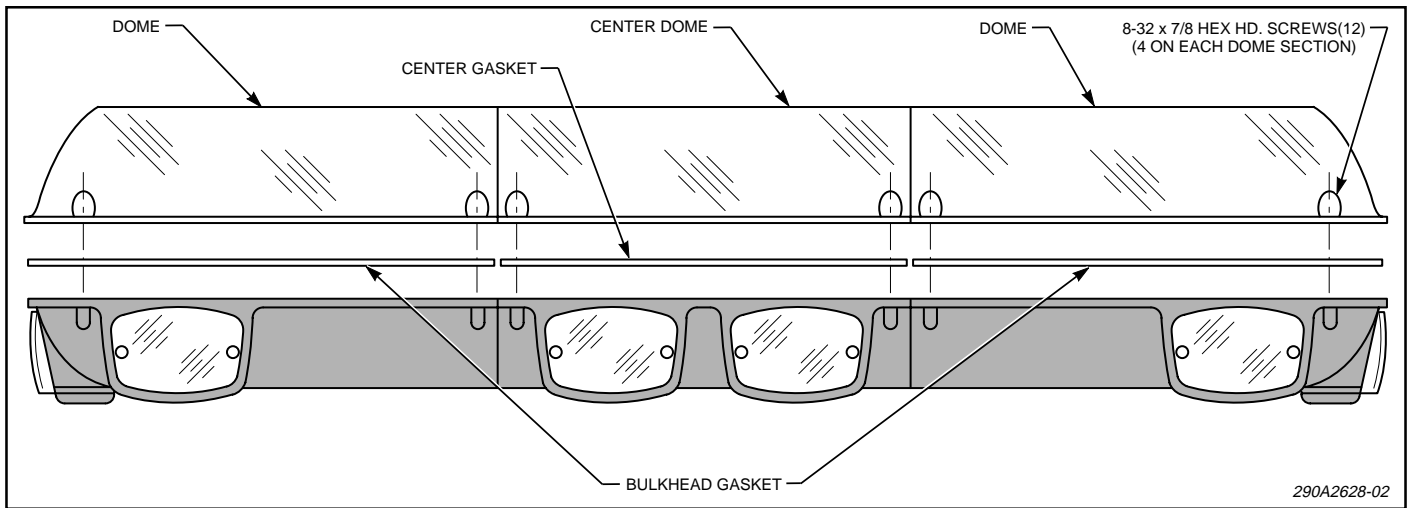

Figure 1.
C. DOME REMOVAL (see figure 1).